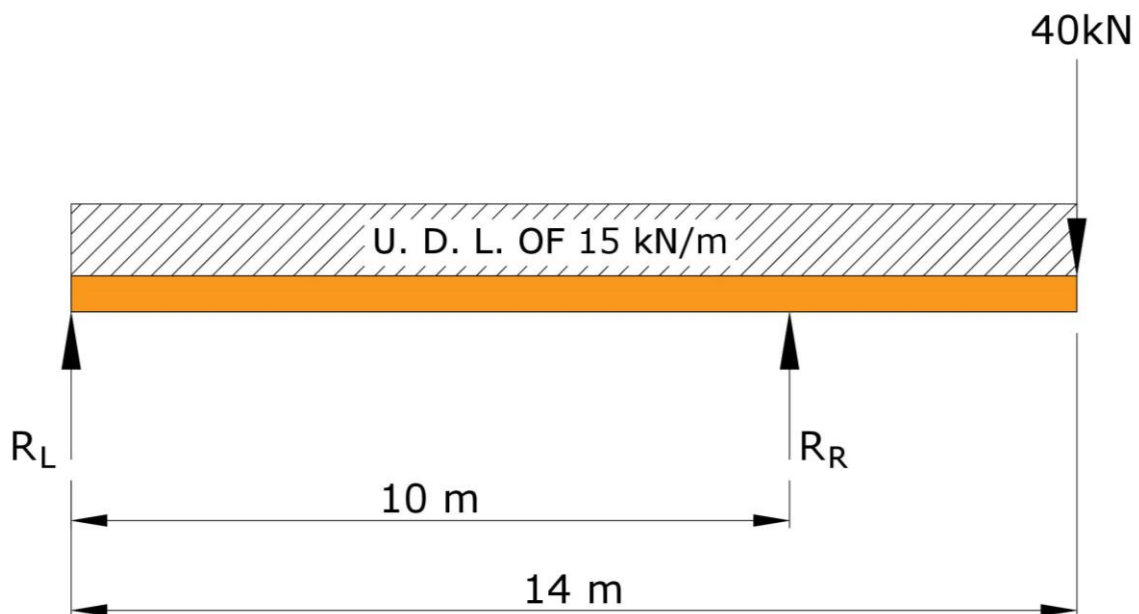

Figure 8
A uniform cross-section beam is simply supported at  $R_L$  and  $R_R$ . The beam is subjected to a concentrated load of 40 kN at the right end as shown in Figure 8. The weight of the beam is shown as a uniformly distributed load of 15 kN/m.
- a. copy the beam given in Figure 8 using a linear scale of 10 mm representing 1 m: (1)
- b. break up the U.D.L.; (1)
- c. use Bow's notation to describe the system; (1)
- d. draw the load line using a force scale of 15 mm representing 30 kN; (3)
- e. construct a polar diagram with a polar distance of 100 mm; (3)
- f. construct the bending moment diagram; (3)
- g. construct the shear force diagram; (3)
- i. the magnitude of the support reactions at  $R_L$  and  $R_R$ ; (2)
- ii. the position of where the bending moment is zero; (1)
- iii. the bending moment scale used for 1 mm of ordinate; (1)